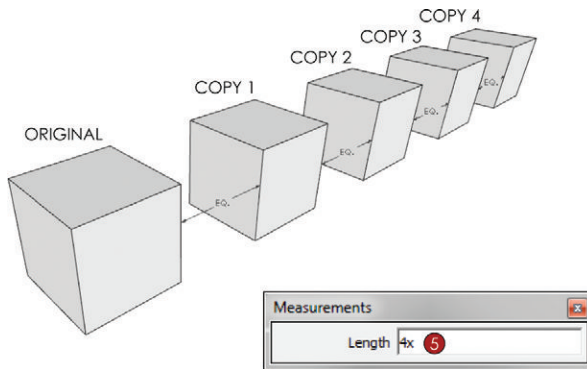

Figure 4.33 Create multiple copies at set intervals using the multiply array.
- To create multiple copies at a specified distance, immediately after you complete the Move/Copy command, enter the number of copies you want to make—for example, type **4x**, then press Enter. This will create four copies of the selection in addition to the original, just as a copy machine would (Figure 4.33).